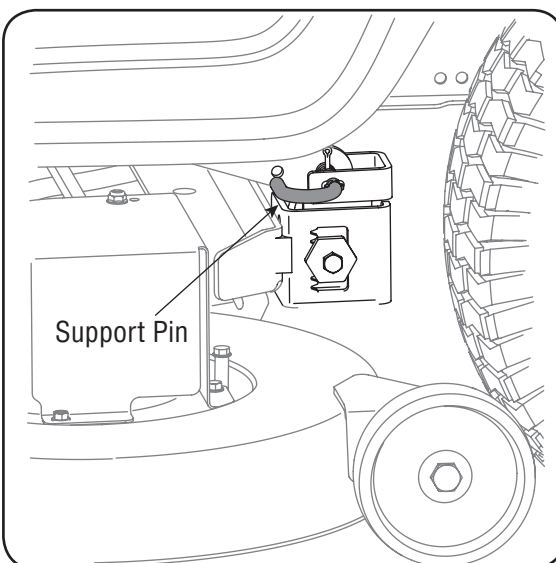

Figure 6-4
5. Looking at the cutting deck from the left side of the tractor, locate the deck support pin on the rear left side of the deck. See Figure 6-4.